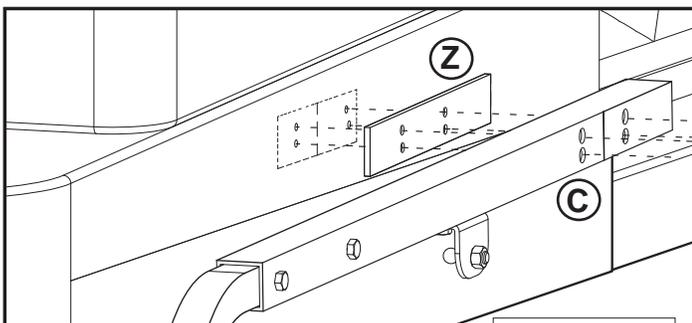

Figure 3.1
1. Locate previously mark made over the aluminum plates of the side of the cover set. Align mark on the side Side Assembly Channel (C) to the mark made on the side of the cover set (Figure 3.1).
2. Using the (4) holes on the side Assembly Channel as a template, mark the location of the (4) holes (Figure 3.1).
3. Pre-Drill holes 1/8" (3mm) by 1/2" (12.5 mm) max depth (Figure 3.1).
4. Make sure to align Channel (C) and Spacer (Z), secure Side Assembly Channel (C) to cover set using (4) 1-1/2" Flat Head Screws located in Bag #1 (Figure 3.1) Make sure screws are seated completely into the countersunk holes of the Side Assembly Channel (C)